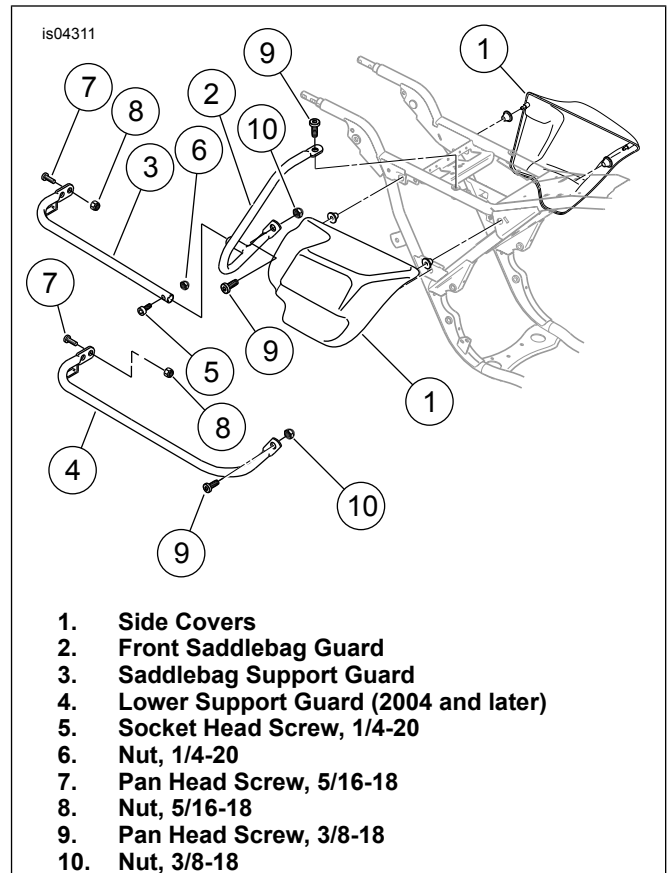

Figure 1. Saddlebag Support Removal
3. See Figure 1. Gently pull one side cover (1) from the frame downtubes (no tools are required).
5. Remove and save the two 5/16-18 x 1 inch long pan head screws (7) and locknuts (8) that hold the lower saddlebag support to the rear fender support bracket. Using a T-40 TORX drive head, remove and save the 3/8-16 screw (9) and 3/8-16 locknut (10) fastening the front flange to the horizontal frame tube. Remove and save the rubber mount (not shown) from the lower saddlebag support. Remove and discard the lower saddlebag support (4).